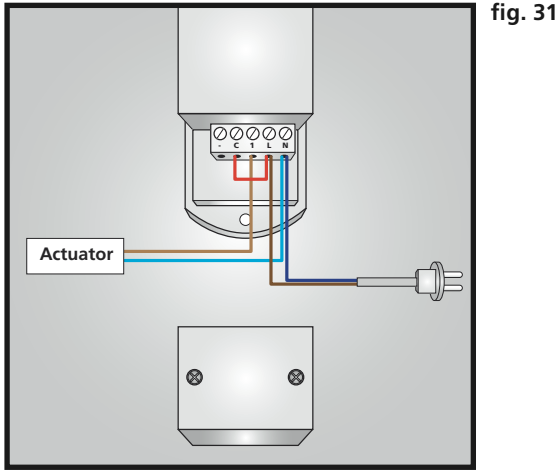

fig. 31
Step 4: Connect the actuator to the receiver (See fig. 31).